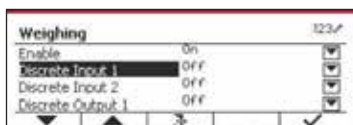

Figure 38
4. The Weighing submenu is now displayed. Select the list item and press the button corresponding to the ✓ icon to change the setting as desired. After completion of I/O setup, press the softkey corresponding to the **User** icon to return to the main application screen. (See Figure 38)